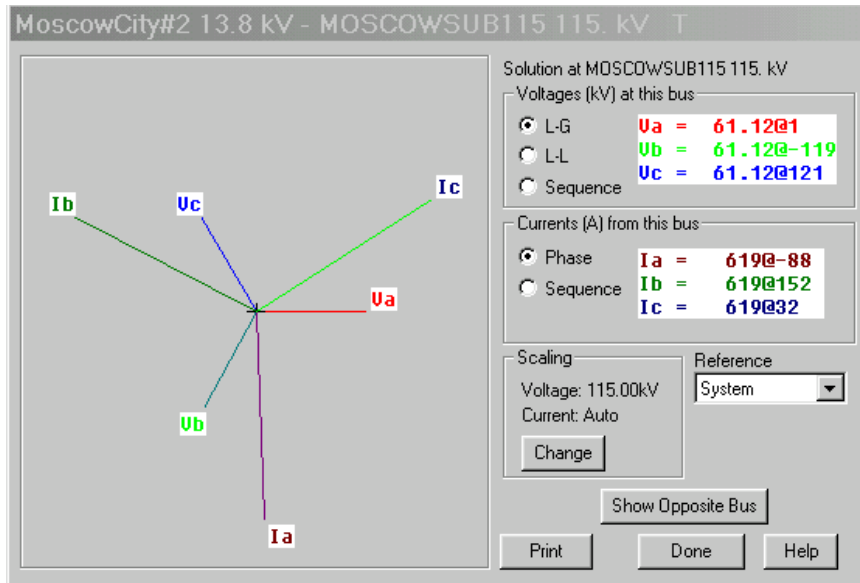

Figure 4. 115 kV **phase** currents and voltages for the 13.8 kV bus **three-phase** fault at Moscow.
- V_n (V_a , V_b or V_c) is the line to neutral voltage at the fault. You only have **positive sequence** voltage and current since the system is balanced. That is; $I_a = I^+$. The current angles are referenced to the system, which in this case is the 115 kV (see Figure 4).